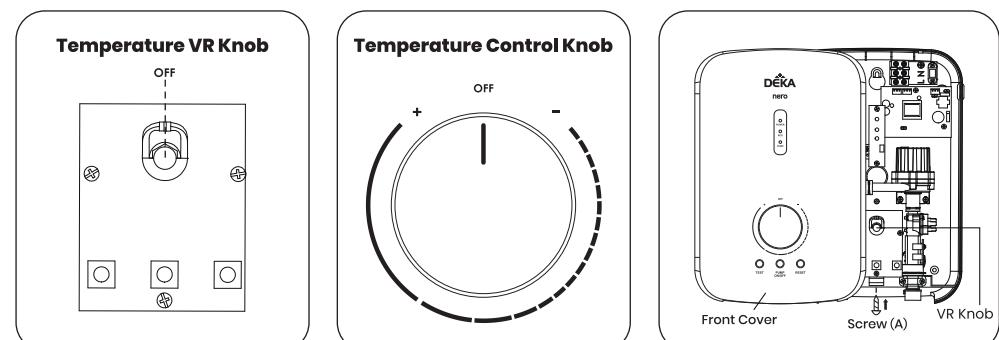

Fig. 8
3. Secure the front cover with the screw (A) as shown in the figure below (Fig. 8).